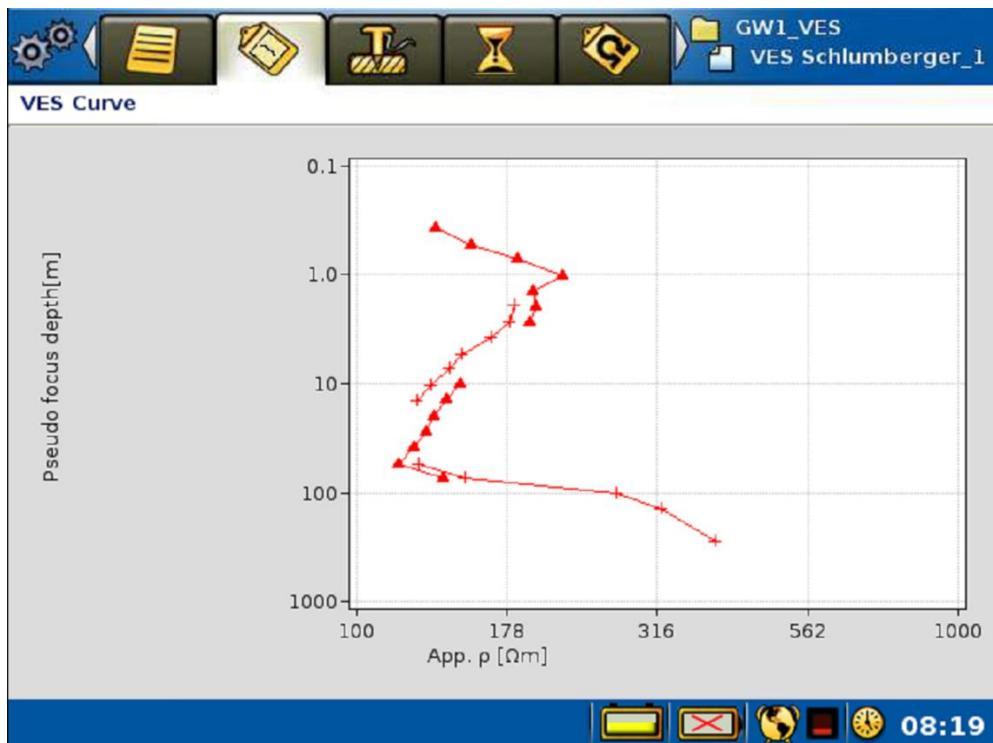

Figure 79 VES Curve Page example
- The “Measure/VES Curve” Page (Figure 79) displays a sounding curve of the measurements made so far in the active task.
In VES mode a sounding curve will be shown in a double logarithmic diagram on the *VES Curve Page* (Figure 79). Focus depth (median depth penetration) will be on the vertical axis and apparent resistivity on the horizontal axis. The marker for individual datapoints will change shape when the MN spacing changes.